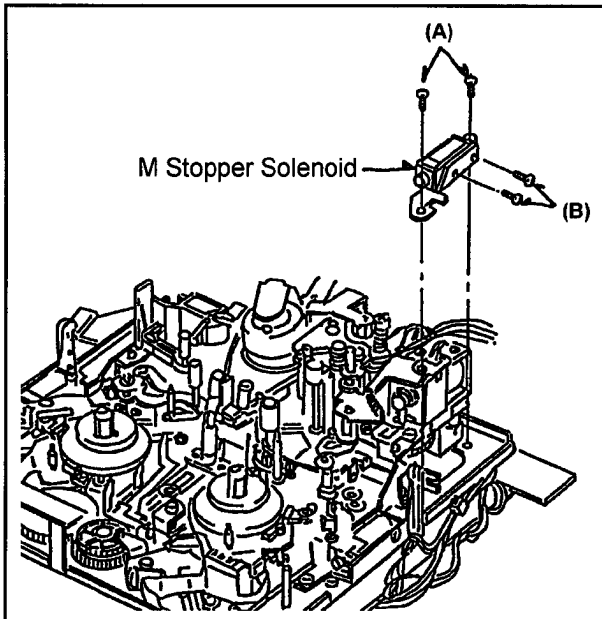
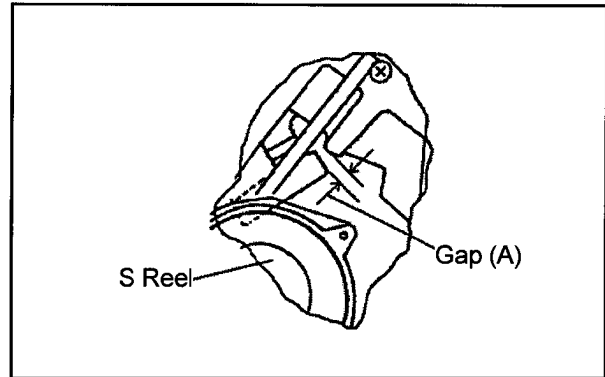

Fig.4-23-1
Fig.4-23-2
4. Remove the 4 screws A and B, and then the solenoid. (Fig. 4-23-1)
3. Loosen the screw (A) in Fig4-23-1 and adjust the solenoid position so that the gap (A) between the Mech. Chassis and the M stopper is 1.1 to 1.3mm. (Fig. 4-23-2)